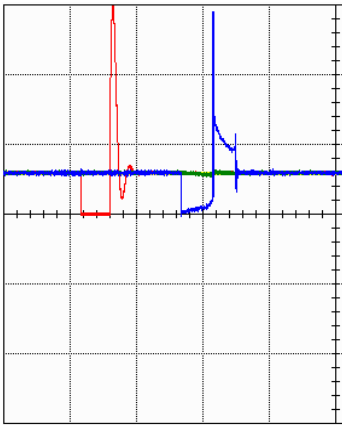

Figure 4.41
- *Full grid*: The area for displaying positive and negative parts of the signal is the same. The zero axis is in the middle of the screen (Figure 4.41). This mode is set as default and is common for all windows.